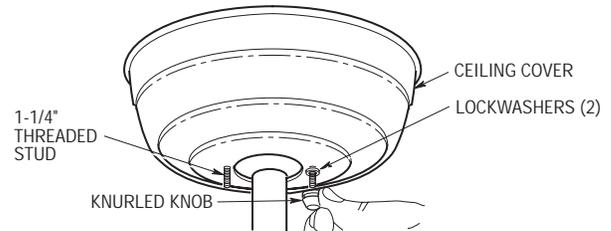

Figure 5
4. Lift the ceiling cover up to the threaded studs and turn until studs protrude through the holes in the ceiling cover (Figure 5).
5. Secure the ceiling cover in place by sliding lockwashers over the threaded studs and installing the two knurled knobs (supplied). (Figure 5.) Tighten the knurled knobs securely until the ceiling cover fits snugly against the ceiling and the hole in the ceiling cover is clear of the downrod. Your fan is now wired to be turned on and off from the fan switch.